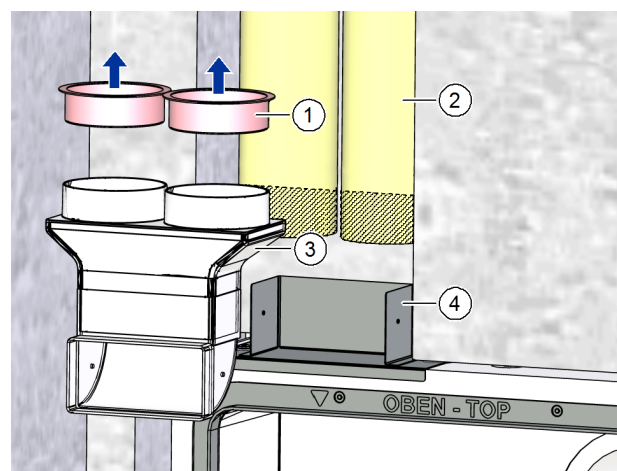

Fig. 17: Cutting flexible pipes to length
- ▶ Remove the red protective cover (item 1 in Fig. 17) from the flexible pipe connection (item 3 in Fig. 17).
- ▶ Shorten the flexible pipes (item 2 in Fig. 17) so that the flexible pipe connection (item 3 in Fig. 17) with the flexible pipes inserted can be pushed easily into the fixing plate (item 4 in Fig. 17).